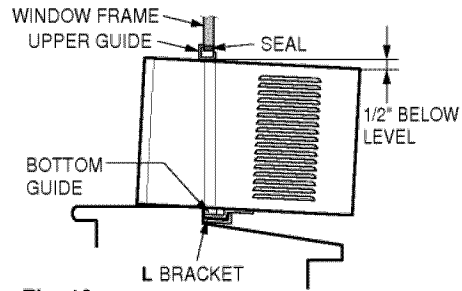

Fig. 10
b. While steadying the air conditioner, carefully bring the window sash down behind the upper guide of the air conditioner, as shown in Fig. 10.